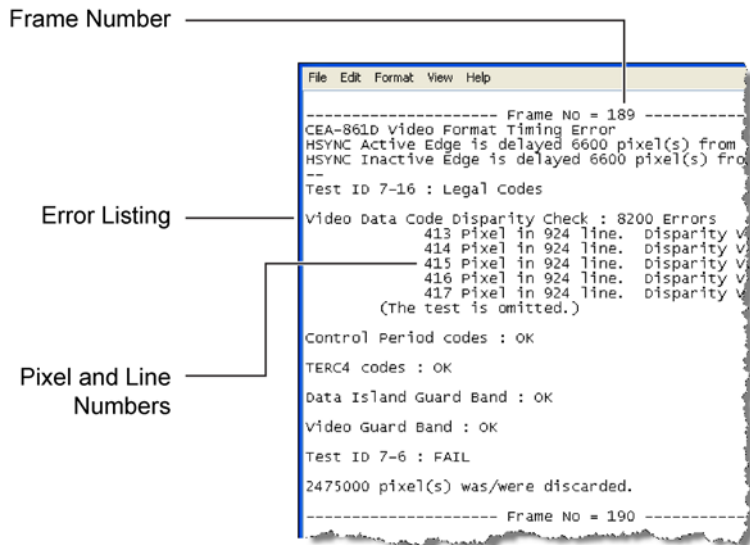

Figure 42 Error Pixel and Line Locations in Log File
- 2 Within the log file, identify the location of errors by the frame, line, and pixel as shown in Figure 42. In this figure, the first error is located in Frame 189, Line 924, at pixel 413.